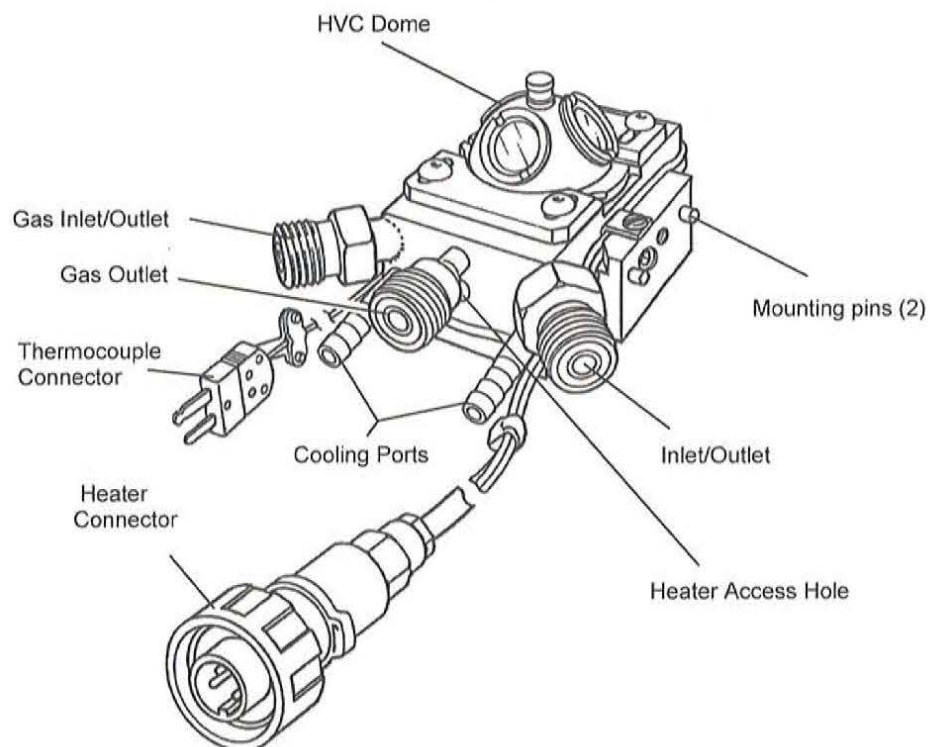

Figure 9 • The High Temperature Reaction Chamber HVC
Before installing the High Temperature Reaction Chamber (HVC) familiarize yourself with it by referring to the drawing of the HVC found below (Figure 9).
- Locate the mounting pins on the side of the HVC (Figure 9) in the pin holes where the sample stage was located.